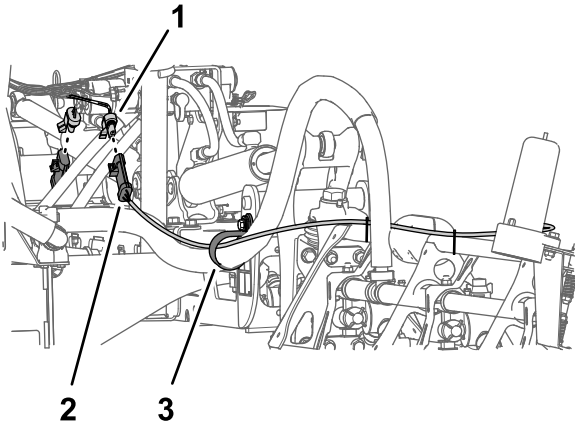

Figure 26
1. Disconnect 3-pin connector of the wire harness for the ultra sonic boom leveling kit from the 3-socket connector of the machine wire harness (Figure 26).